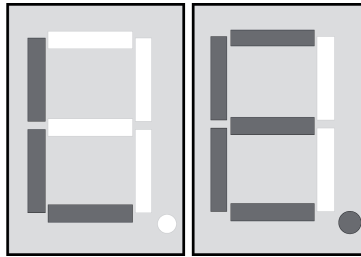

Figure 6: Indication LE – „Learn“
- Trigger a teach telegram on the desired radio transmitter (see instructions for radio transmitter). Operate manually-operated transmitters until **LE** appears in the display (Figure 6).